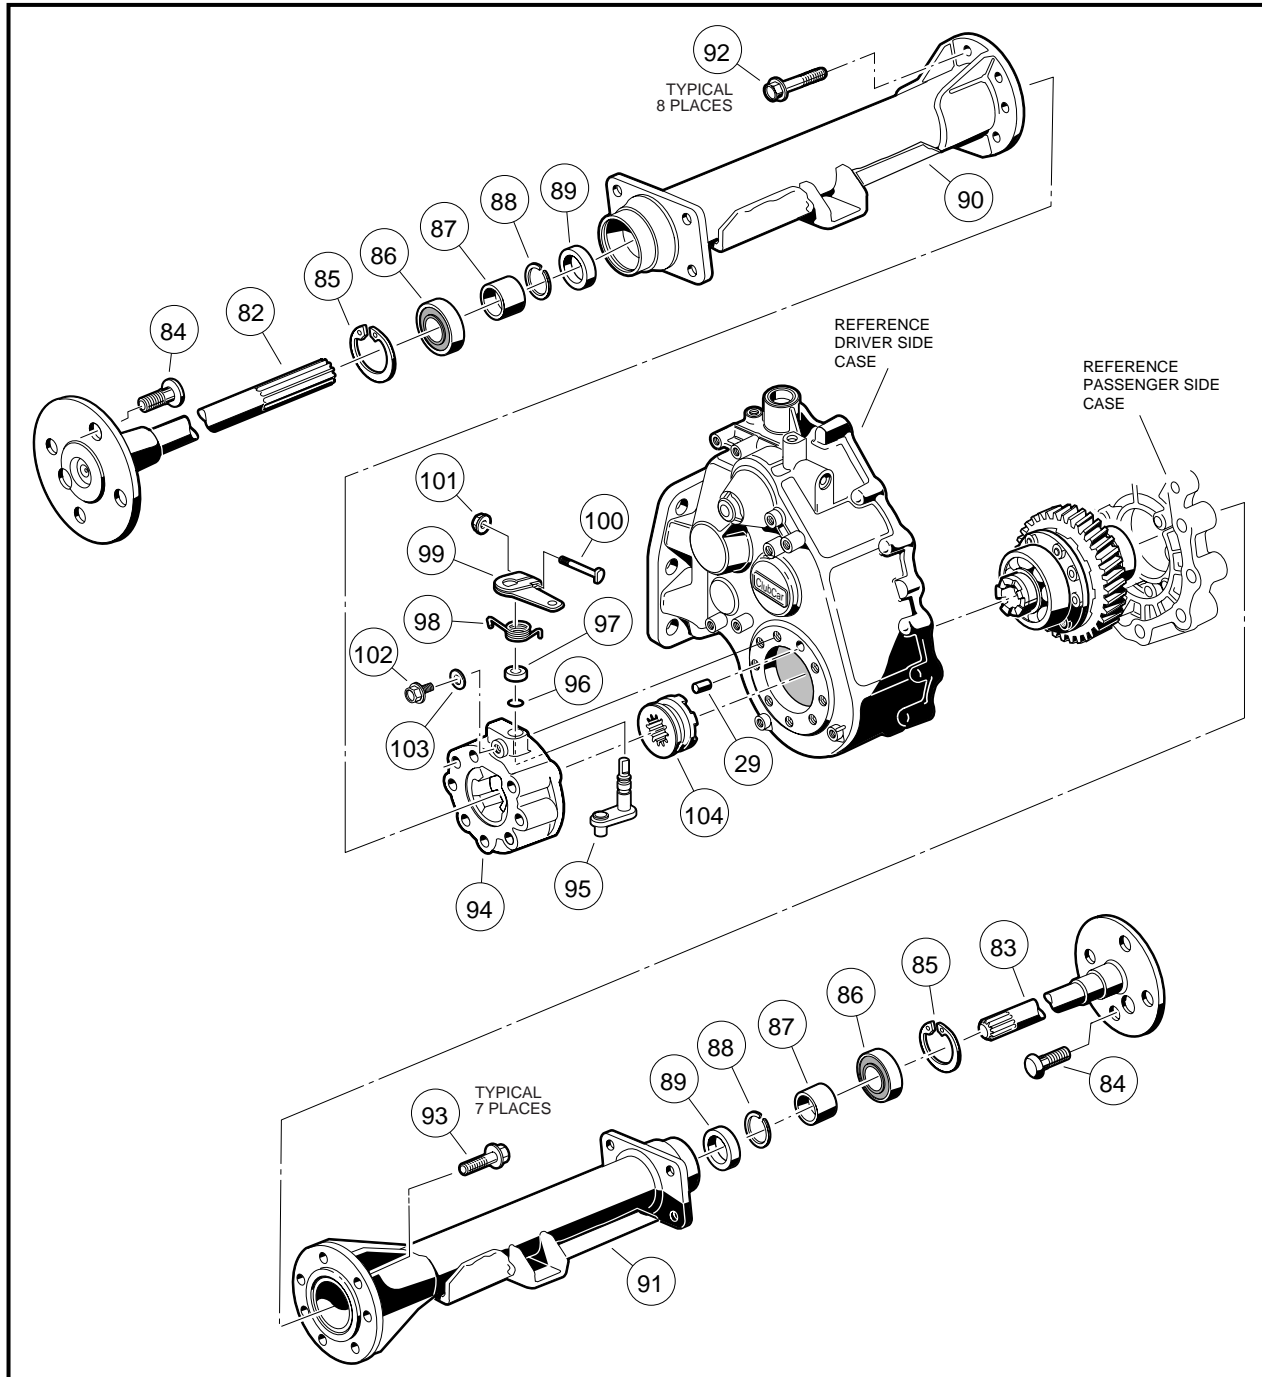
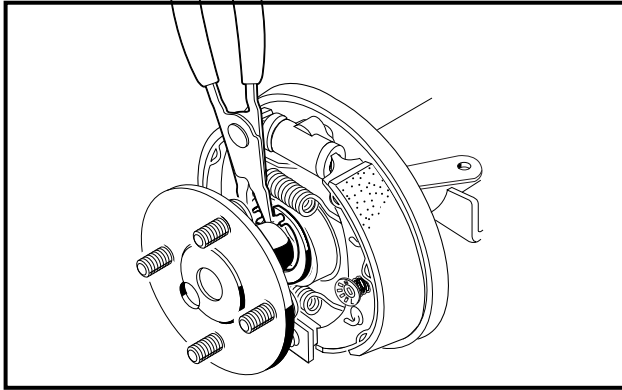
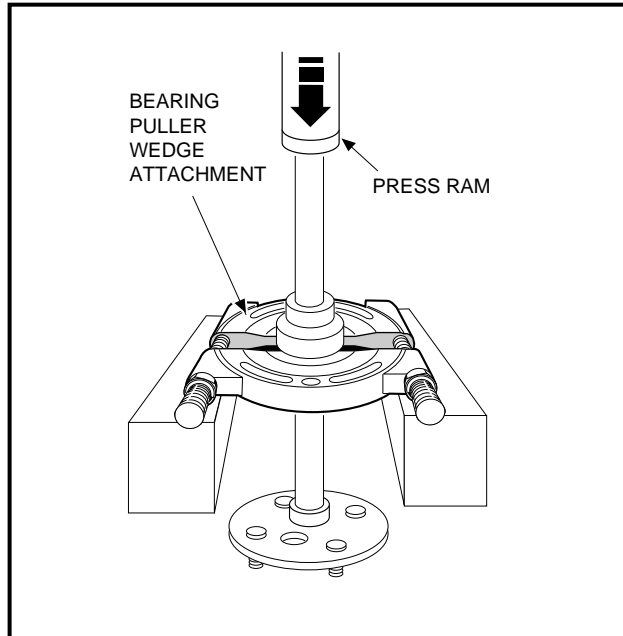
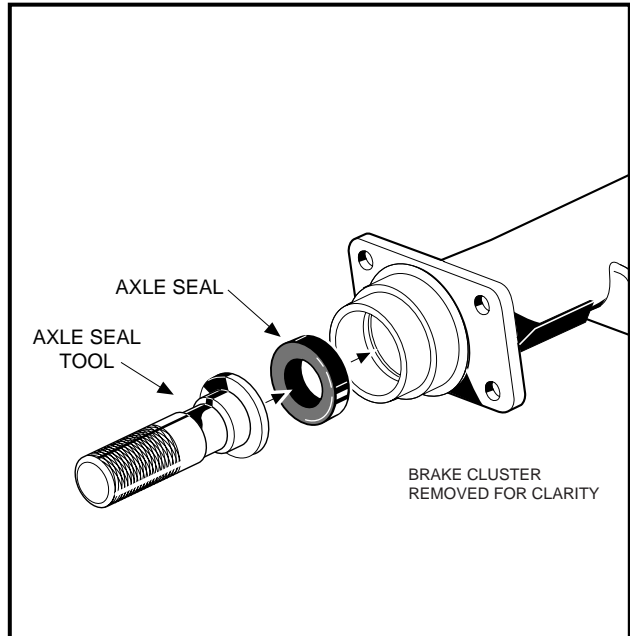

Figure 16-4 Differential Gear Case/Axle Tubes
Figure 16-5 Retaining Ring
Figure 16-8 Bearing and Collar
Figure 16-9 Axle Seal Tool
4. Using 90° internal snap ring pliers (.090 tip), remove internal retaining ring from axle tube (**Figure 16-5, Page 16-5**).
7. Inspect the axle shaft assembly to be sure the bearing (86) and collar (87) have not slipped and are still seated against the shoulder on the axle shaft (**Figure 16-4, Page 16-4**).
1. Use external retaining ring pliers (.047 tip) to remove the retaining ring (88) (**Figure 16-4, Page 16-4**), then place a bearing puller wedge attachment (CCI 1012812) on the axle shaft between the wheel mounting flange and the bearing. **See following CAUTION.**
2. Press the bearing (86) and collar (87) off together (**Figure 16-4, Page 16-4**). Leave the retaining ring (85) on the axle shaft. **See also Figure 16-8, Page 16-6. See following NOTE.**
1. Install axle bearing (86) on axle (82 or 83). Push bearing onto axle until bearing is flush against axle shoulder (**Figure 16-4, Page 16-4**).
3. Install collar (87) (**Figure 16-4, Page 16-4**) onto axle shaft. Place axle assembly on bearing puller wedge attachment and press collar onto axle.
4. Use external snap ring pliers (0.047 tip) to install the retaining ring (88) (**Figure 16-4, Page 16-4**).
5. Place a **new** (sealed) bearing (86) and collar (87) on shaft (82 or 83) (**Figure 16-4, Page 16-4**).
6. Place the bearing puller wedge attachment against collar and press both bearing and collar onto shaft. Install the retaining ring (88) (**Figure 16-4, Page 16-4**). **See following CAUTION.**
1. Clean bearing and seal seats in axle tube (90 or 91) (**Figure 16-4, Page 16-4**).
2. Place a new seal (89) (**Figure 16-4, Page 16-4**) in axle tube with seal lip facing inside of the axle tube. Use an axle seal tool (CCI 1014162) to press it in until it seats firmly in position (**Figure 16-9, Page 16-6**). See following **NOTE**.
4. Install retaining ring (85) (**Figure 16-4, Page 16-4**) in the axle tube. See also **Figure 16-5, Page 16-5**.